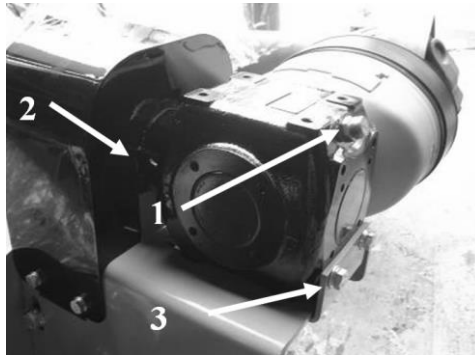

Figure 32
Use always the same type of oil, SAE 90. For gearbox we need 1.2 l of oil. Use the hole on the top of gearbox for filling in (Figure 32(1)). For pouring in use a funnel. Pour in the oil till the level of the control plug on the gearbox). A plug for oil control is placed on the side of the gearbox (Figure 32(2)). For changing the oil use plug under the fixing plate – unscrew it (Figure 32 (3)).